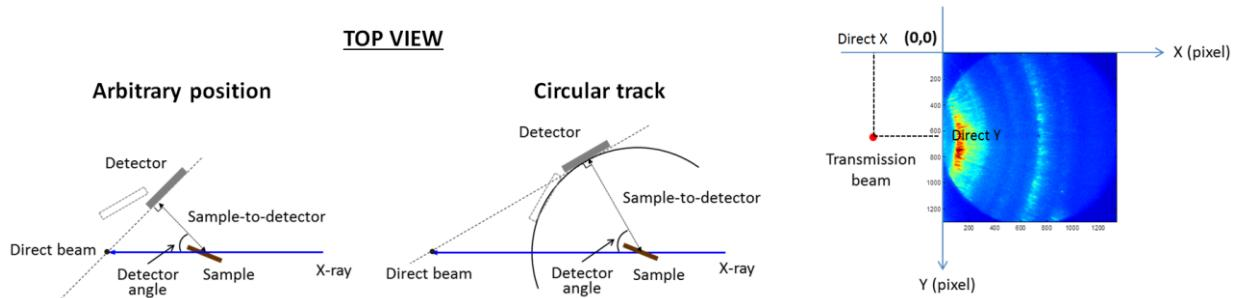
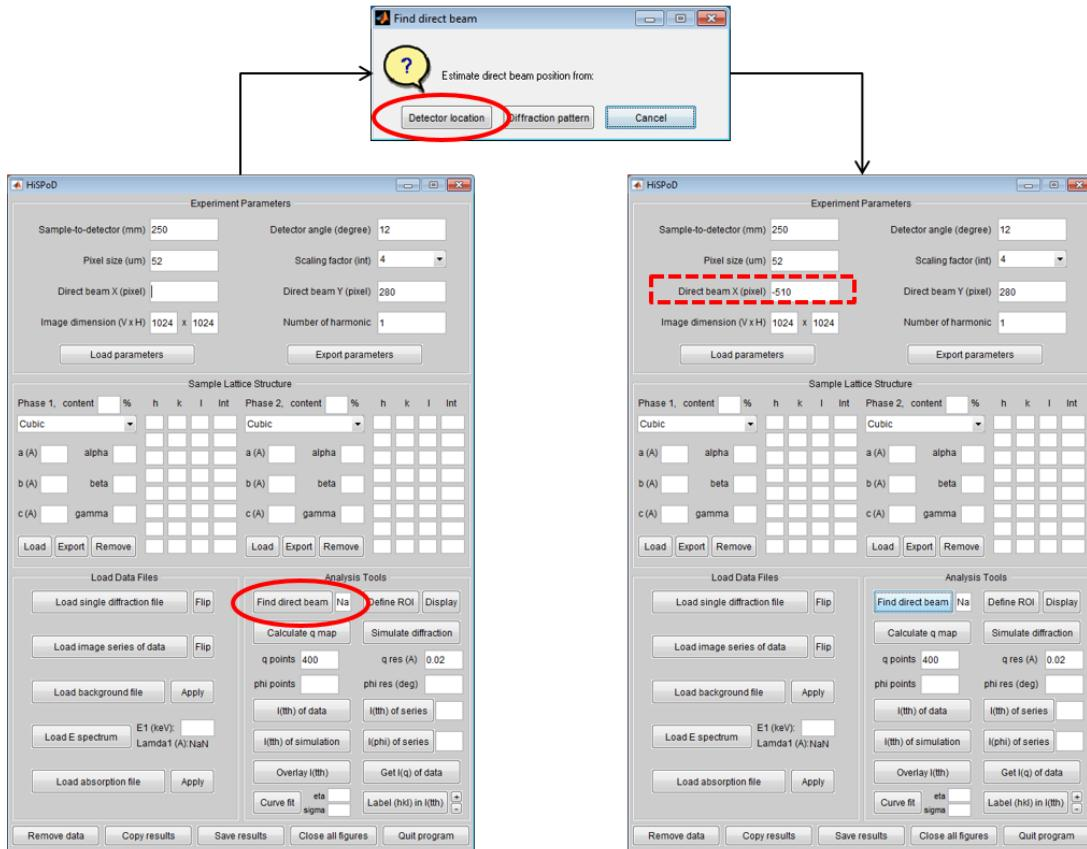

Figure 2.2: Position of the detector
Figure 3.1: Find direct beam position based on detector position (only for “Circular track” mode)
In the experiment, the detector is placed with detection plane perpendicular to the ground, as shown in Fig. 2.2. The position of the detector could be rather arbitrary. It's recommended that the detector is mounted and moved in the “Circular track” geometry, such as the case of mounting the detector on a diffractometer arm for the ease of getting the direct beam X and Y values.
- Sample-to-detector distance: the shortest distance from the sample to the detector plane (Fig. 2.2)
- Detector angle: the angle from incident direction to the detector plane surface normal (Fig. 2.2)
- Direct beam X and Y pixel positions: typically X is negative and Y is positive (Fig. 2.2)
- “q res (A)": width or resolution of q when displaying and simulating. The larger this number, the smoother the $I(tth)$ and $I(q)$ plots
- 2) The direct beam X value can be directly input in if the exact position of the detector is known. Otherwise, it may be left blank and the “Find direct beam” function can do the math. Click “Find direct beam” button, and choose “Detector position” in the dialog window popping up, as shown in Fig. 3.1. Then the direct beam X will be generated. Note that this function only works for the case that the detector position is confined in a circular track with sample facing the center, as shown in the second panel of Fig. 2.2. Direct beam Y number can be estimated based on the curvature of the diffraction rings in the data. If simulating a diffraction pattern without data, direct beam Y value is typically half of the Image dimension V, i.e. beam is at the center height of the detector.